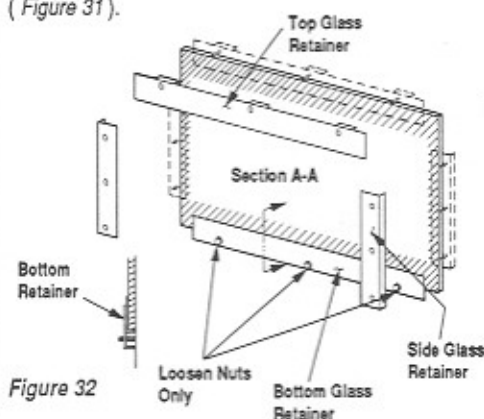

Figure 32
Step 2. Carefully position and center lower logs onto burner with the larger log in front. These logs will "surround" the ceramic colorization rod located on the burner (Figure 32).